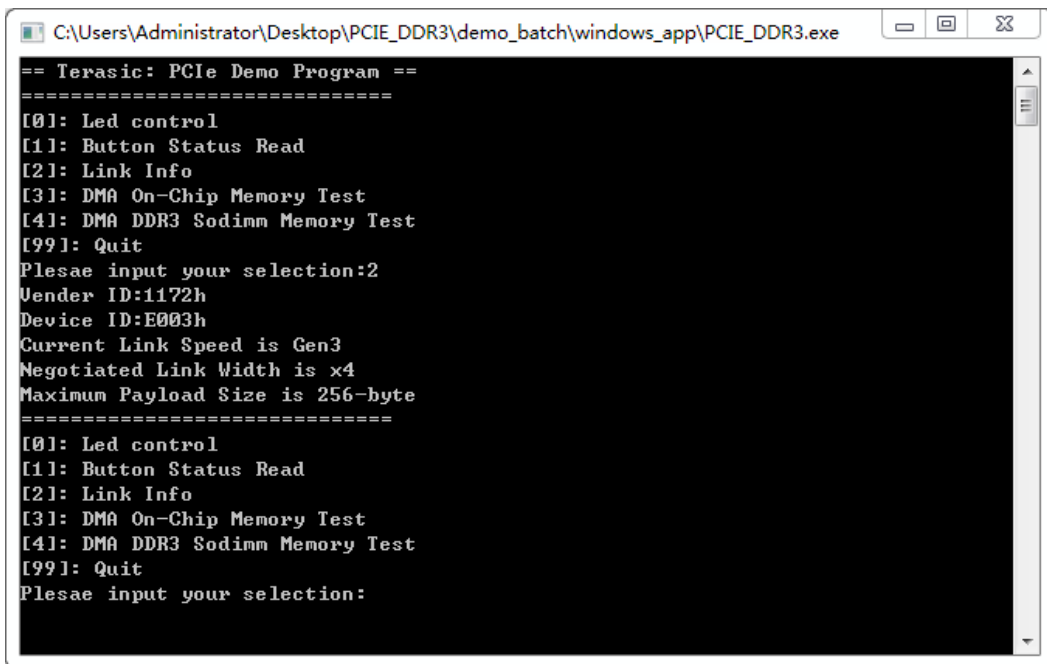

Figure 7-18 Screenshot of Link Info
8. Type 2 followed by the ENTER key to select Link Info item. The PCIe link information will be shown as in Figure 7-18. Gen3 link speed and x4 link width are expected.